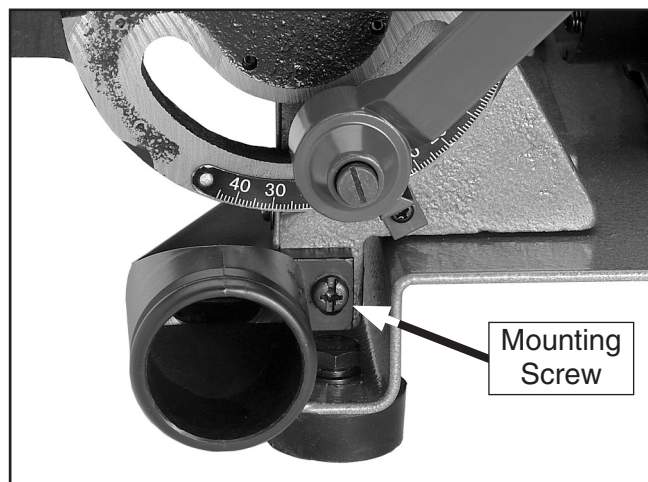

Figure 17. Disc dust port installed.
17. Secure the dust port, as shown in **Figure 17**, with the M6-1 x 15 Phillips head screw and flatwasher.